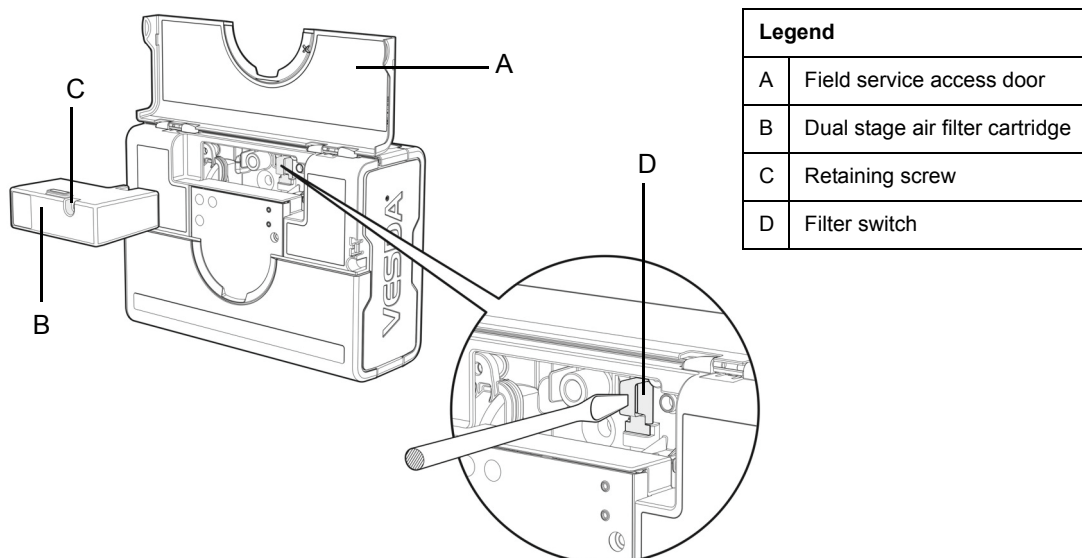

Figure 3: Replacing the air filter cartridge in a VLF detector
1. Push in the security tab and lift up the field service access door (A) in Figure 3 below.
3. Undo the recessed retaining screw (C) and pull out the old filter (B) in Figure 3 below.